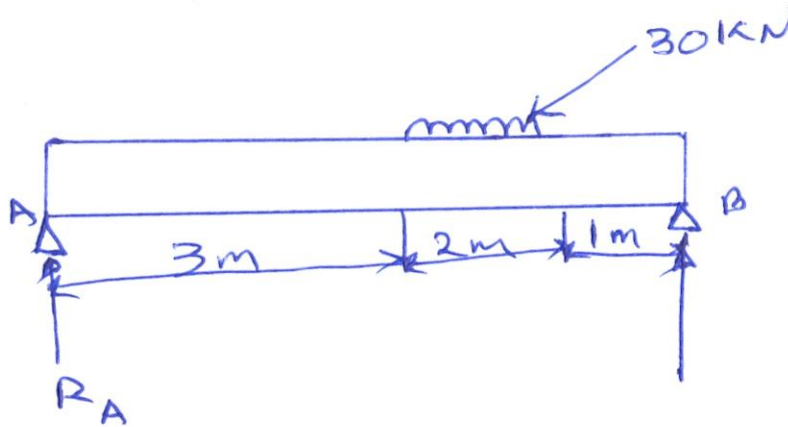

FIGURE 5
- a) A beam is loaded as shown in figure 5. Determine and draw the shear force diagram (10 marks)